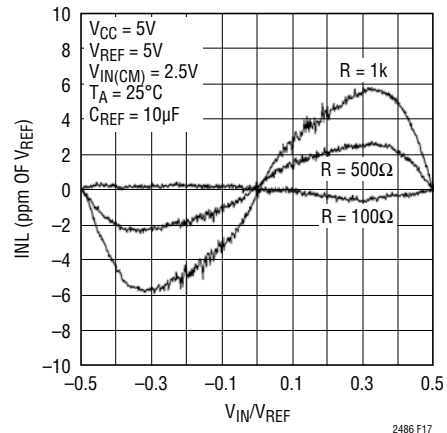

Figure 17. INL vs Differential Input Voltage and Reference Source Resistance for $C_{REF} > 1\text{ }\mu\text{F}$
0.67 ppm per 100Ω of reference resistance results (see Figure 17). In applications where the input and reference common mode voltages are different, the errors increase.